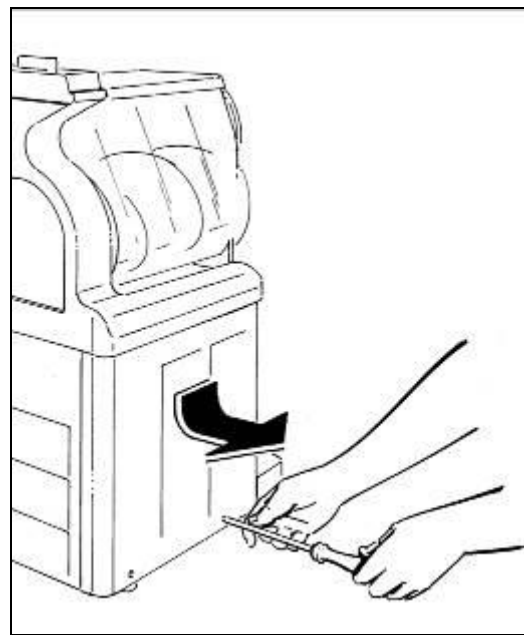

Fig. 46
-GT2 machine: remove the left side panel by unscrewing the two bolts fastening it (fig.46);